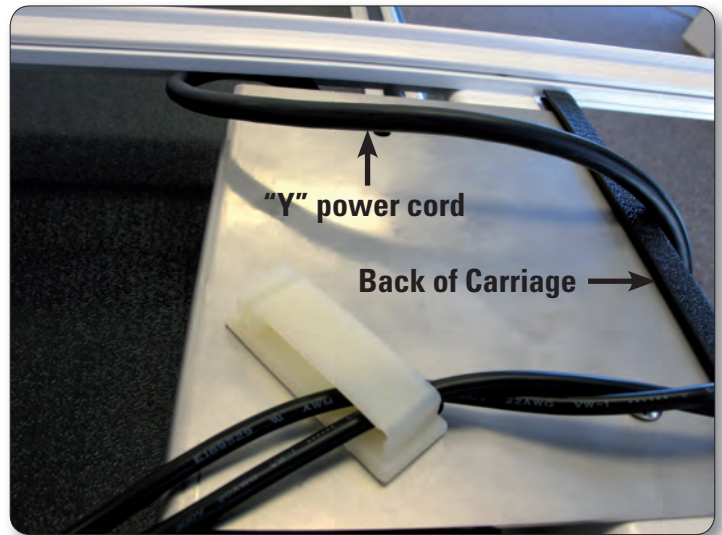
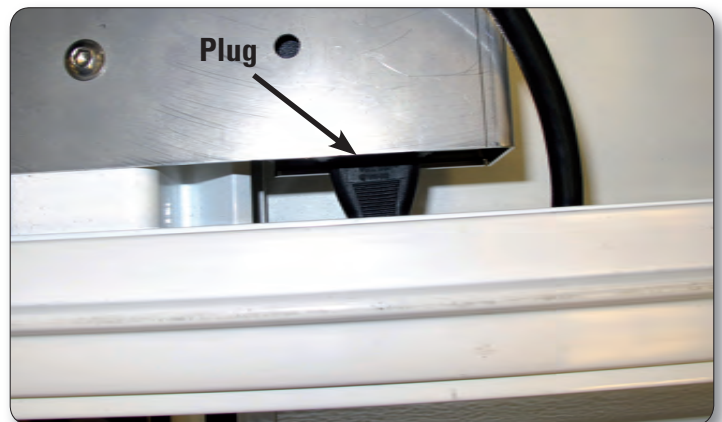

Figure 7
Figure 8
- 1.** With the Pro-Stitcher carriage set properly on the frame system, untie the black twist ties that are binding the black cables in a loop. Drape the black cables over the back of the carriage as shown in Figure 7.
- 2.** Plug one branch of the new “Y” power cord (Page 3, I) into the power supply located toward the rear of the carriage (Figure 8). Route the power cord as shown in Figure 7. It is also permissible to have the power cord extend directly out the side of the carriage rather than over the top of the carriage.